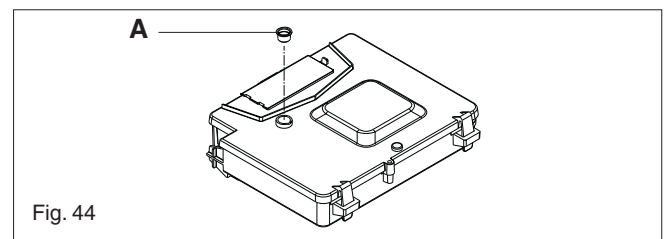

Fig. 44
Lower the controls fascia and remove the cap (A) on the PCB cover (fig. 44).